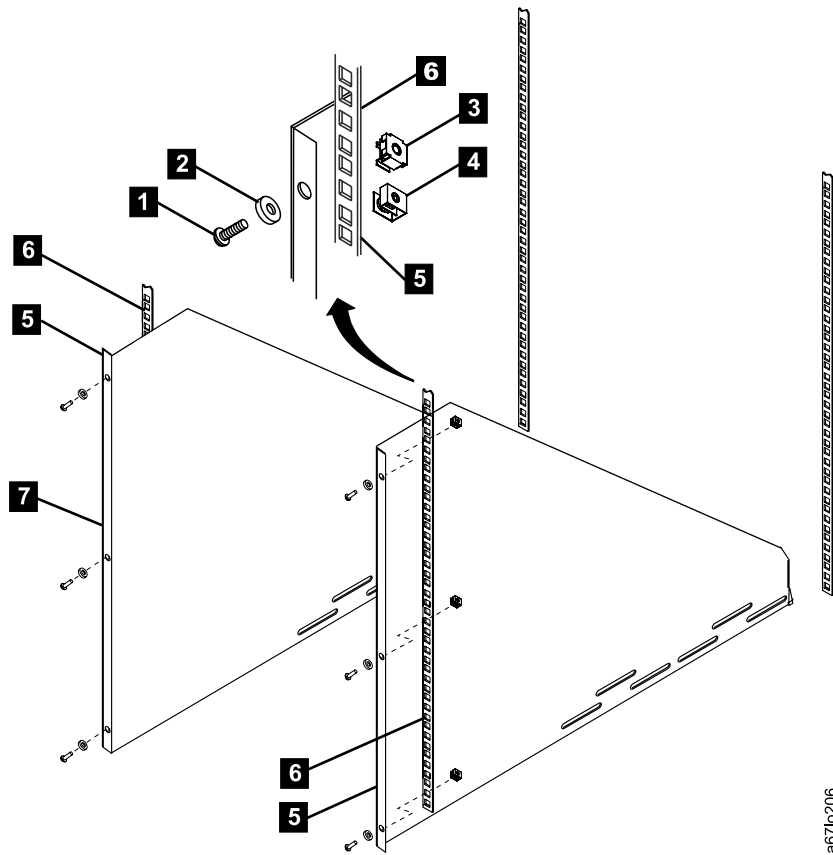

Figure 18. Installing the front mounting brackets
- Place one of the front mounting brackets (see **7** in Figure 18) next to the rail **6**. Using the bracket as a template, install three cage nuts **3** (or clip nuts **4**) into the holes in the rail that are in line with the holes in the mounting bracket. Repeat this step for the second front mounting bracket.
Note: Figure 18 shows both clip nuts and cage nuts, but you must install only one type of nut.